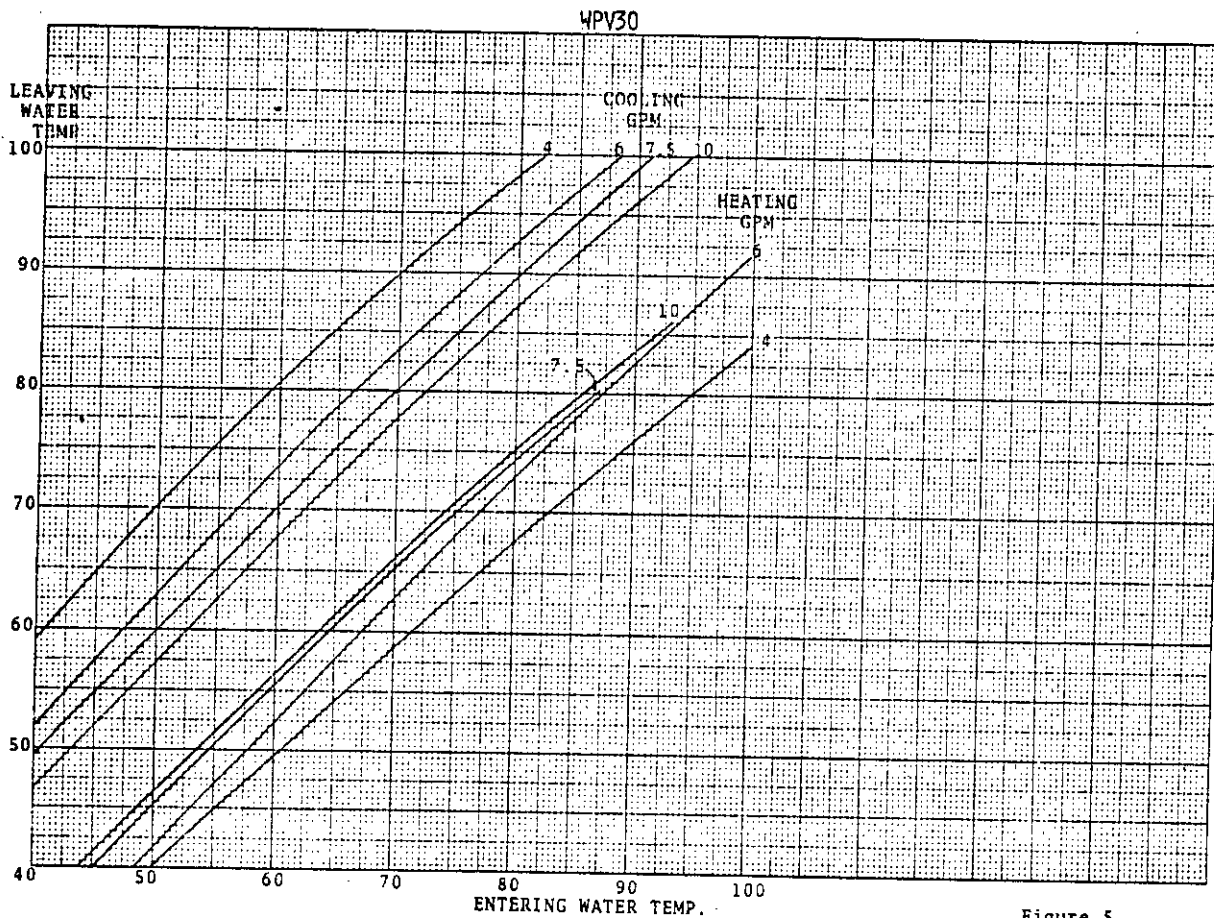

Figure 5
5.5.4 Turn the heating regulating valve screw clockwise (V46NC) until the valve is closed. Throttle manual outlet valve closed until rated water flow is achieved. An approximate flow rate may be determined by water pressure drop through the coil, Table 8.9. A more precise measure of water flow may be determined by timing the discharge from the pipe into a container of known volume, or by reading entering and leaving water temperatures and discharge pressure of the compressor. Compare the readings obtained with temperatures given in Figure 5 or 6 for temperature, and Table 8.13 or Table 8.14 for discharge pressure.
5.5.7 Adjust cooling regulating valve (V46AC) by turning range adjustment screw counterclockwise until water temperatures drop, Figure 5 or 6, and refrigerant pressures, Tables 8.13 or 8.14, all match.
5.6.3 Open the heating regulating valve (V46NC) by turning the range adjusting screw counterclockwise until the entering water temperature and leaving water temperature compare to Figures 5 or 6 for the model installed. Compare suction pressure to Table 8.13 or 8.14 for the model installed.